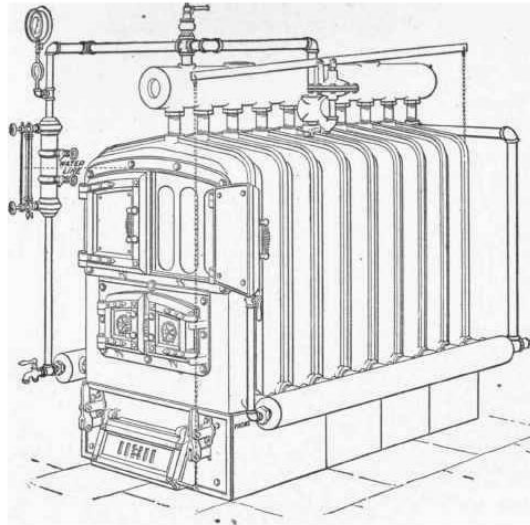

Figure 3: Cast Iron Sectional Boiler (image source: chestofbooks.com)
Cast iron sectional boilers (figure 3) are another type of boiler commonly used in commercial space heating applications. These types of boilers don't use tubes. Instead, they're built up from cast iron sections that have water and combustion gas passages. The iron castings are bolted together, similar to an old steam radiator. The sections are sealed together by gaskets. They're available for producing steam or hot water, and are available in sizes ranging from 35,000 to 14,000,000 BTU input (2).